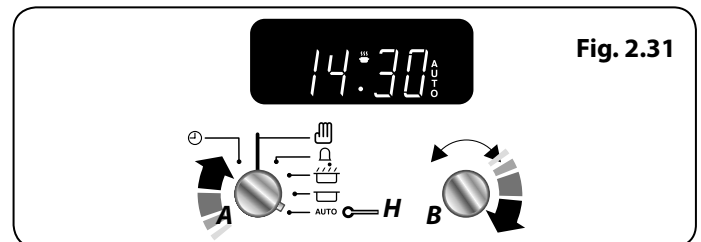

Fig. 2.31
3. Continue to turn the **Adjusting (B)** knob to the amount of time required e.g. 1 minute (**Fig. 2.31**).
5. Turn the **Timer (A)** knob to the **Auto (H)** setting (**Fig. 2.31**). If the display shows the current time and the word 'AUTO' the Multifunction Oven is set to turn on and off.